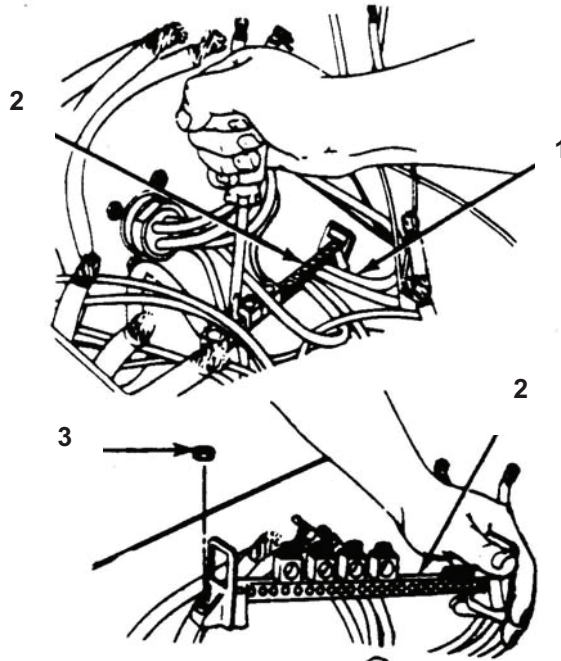

Figure 2. DISE Bus Bar Terminal (1 of 2)
6. Tag and disconnect wiring (Figure 2, Item 1) from bus bar terminals (Figure 2, Item 2).
7. Remove nut (Figure 2, Item 3) securing bus bar (2) to feeder/distribution center and remove bus bar.
8. Install bus bar (2) and secure with nut (3).